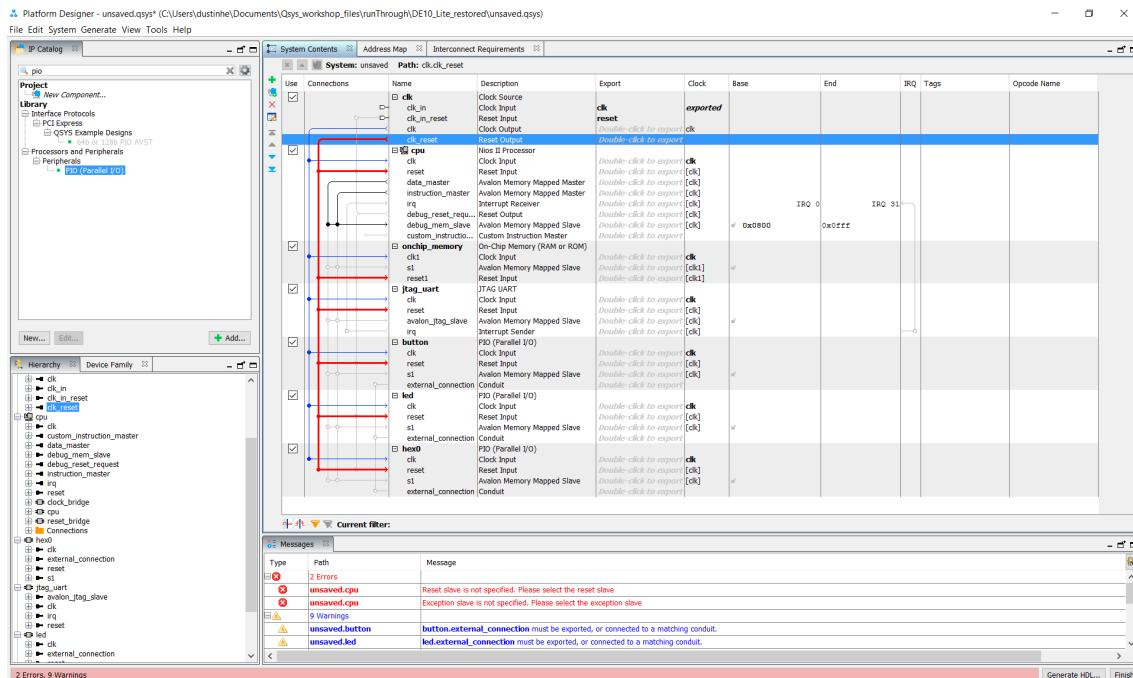

Figure 21: clk and clk\_reset Connected in Platform Designer
- Perform the same operation to connect the **clk\_reset** from the clock component to the **reset** signals on the other components. At this stage, your design should look like Figure 21 below. (Color-coded for clarity.)